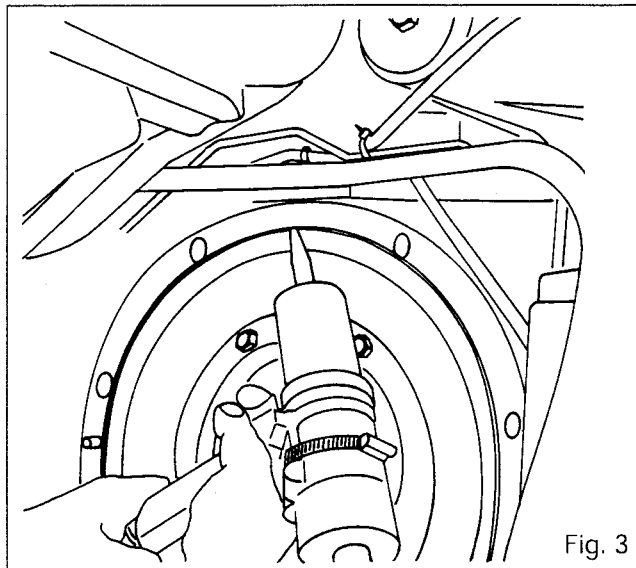

Fig. 3
17. Apply a bead of oil resistant silicone (Silicomet type) to the inner edge of the centre housing (Fig.3).